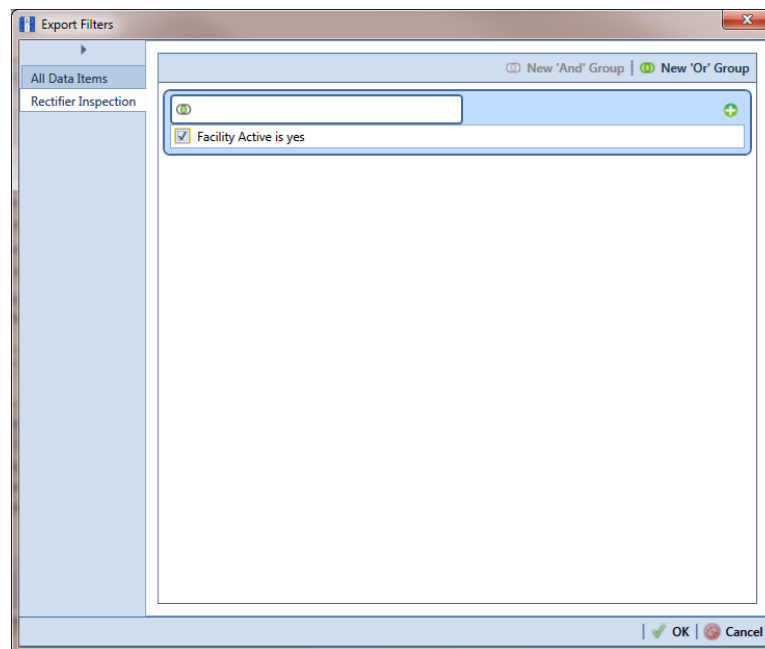

Figure 10-54. Export Filters
- Click the tab **All Data Items**. Click the check box for each filter you want to apply to *all* data items in the Bridge definition (Figure 10-54).